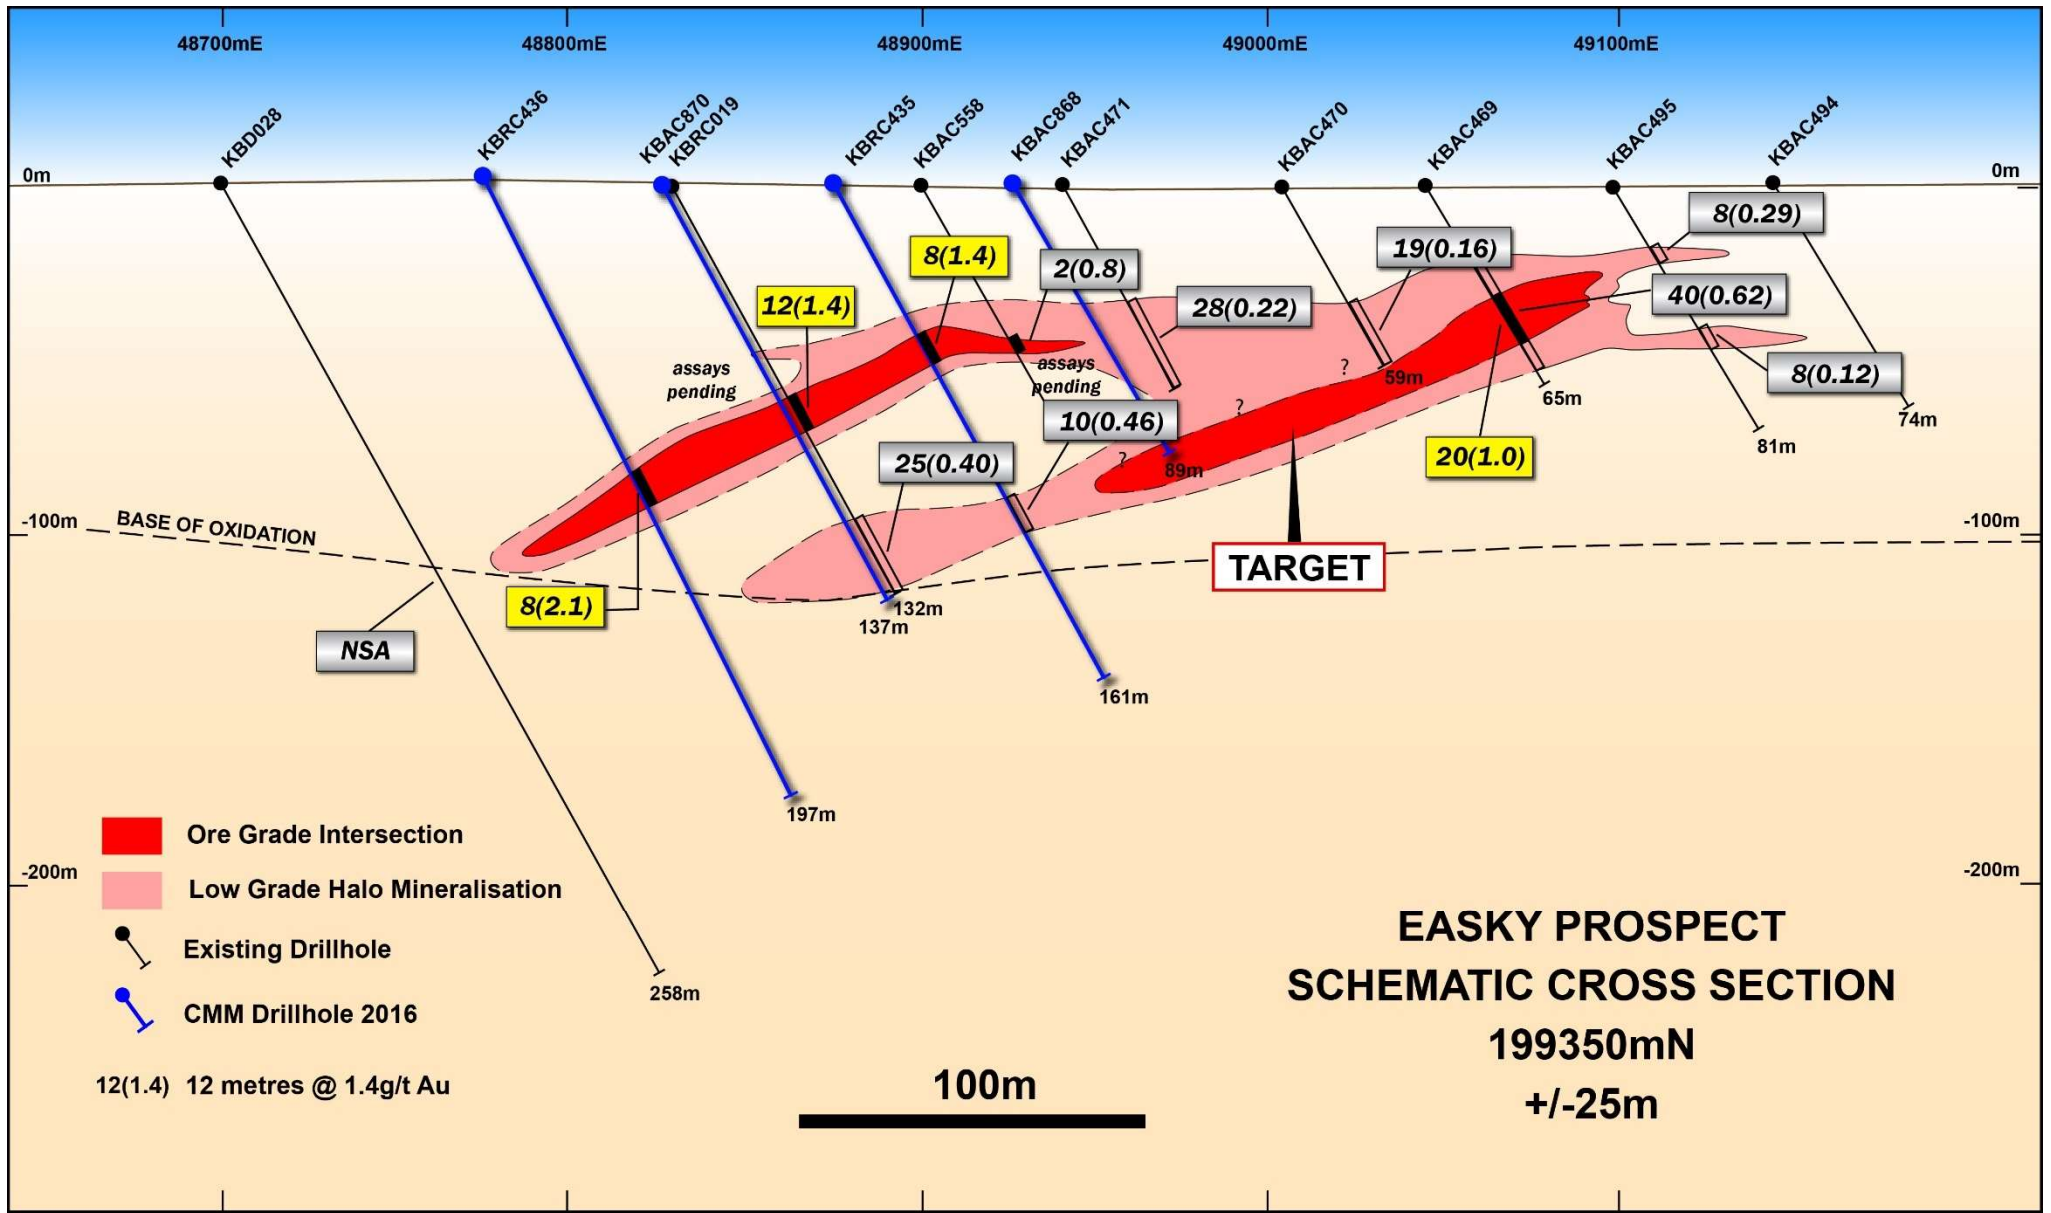

Figure 2: Easky Cross Section 199325mN
- Gold mineralisation is reported from two key traverses (199350 N and 199500 N), separated by 150m, with assays awaited from two additional RC holes (refer Figs 2, 3, 4). Further drilling is required to close off mineralisation to the north, south and down-dip to the west.